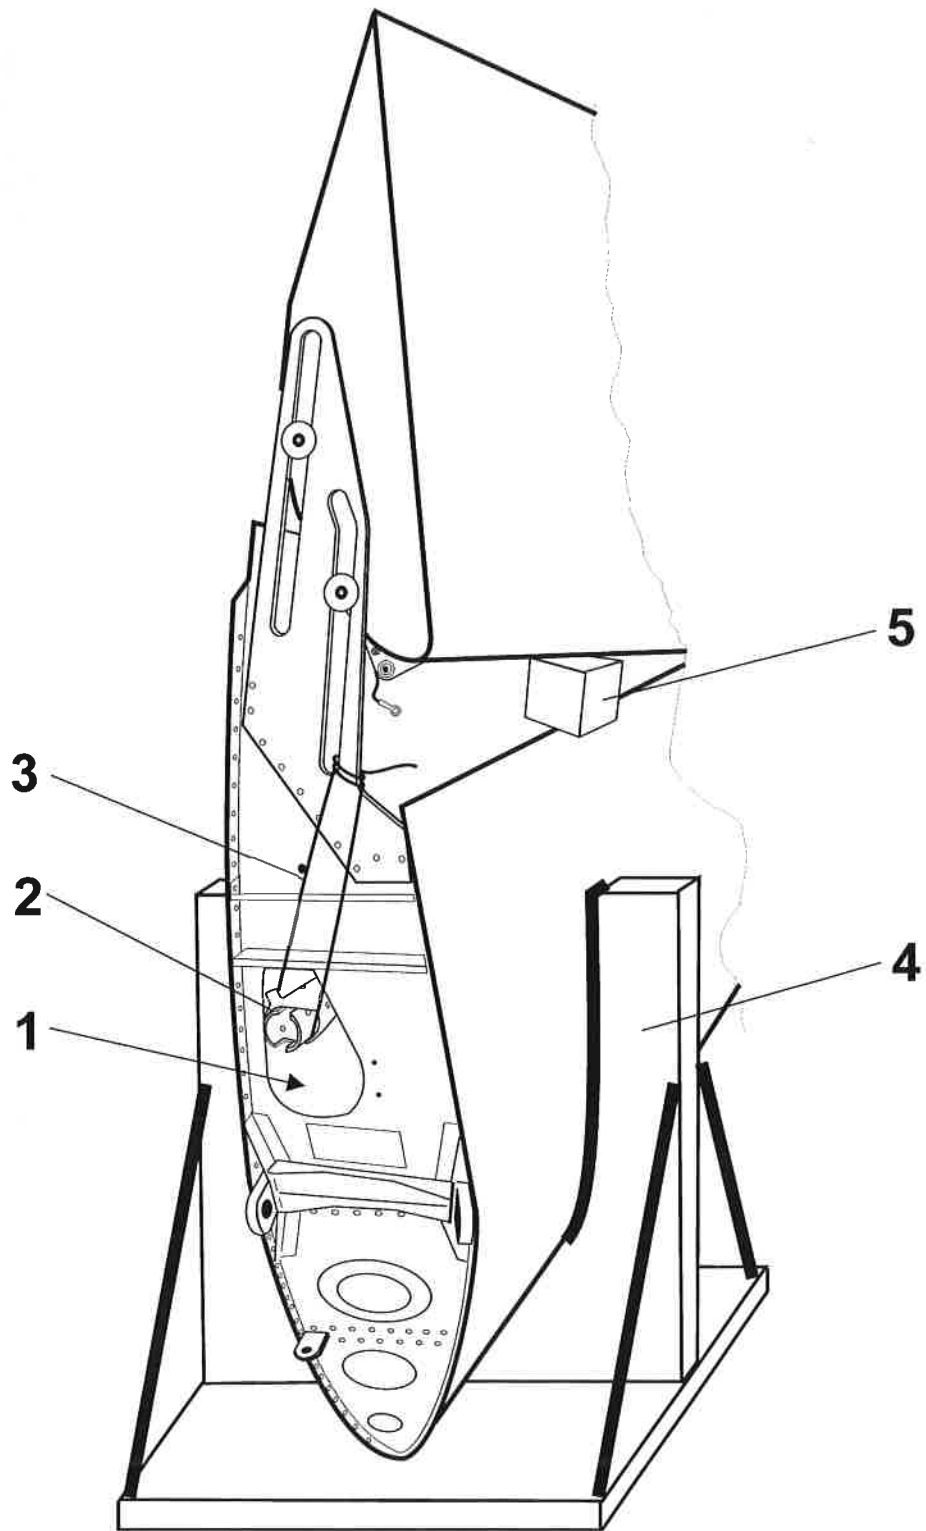

Fig. 3 - View of the prepared wing on the check
Put the removed wings into the vertical position into the racks prepared beforehand - see fig. 3.
- b. Pull the wing flaps to the max. extended position and secure the position with the suitable pads between the flaps leading edge and wing trailing edge - refer to the fig. 3.
Disconnect the wing flaps control rod at the rib No. 1 of wing flap, remove the overbridging. Fix the drive shaft of the wing and brake flaps using the binding wire - refer to the fig. 3.